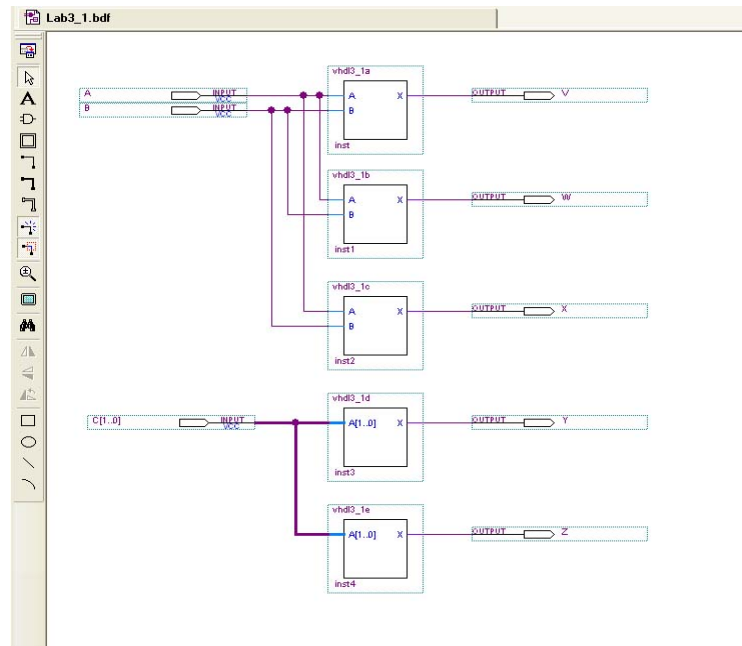

Figure 3-1
- Open a new Schematic file (**File > New**) by highlighting **Block Diagram/Schematic File**. And click **OK**. And construct the circuit shown in Figure 3-1 using the symbols you just created. Each symbol should be available in the Project Library in the Symbol diagonal box.